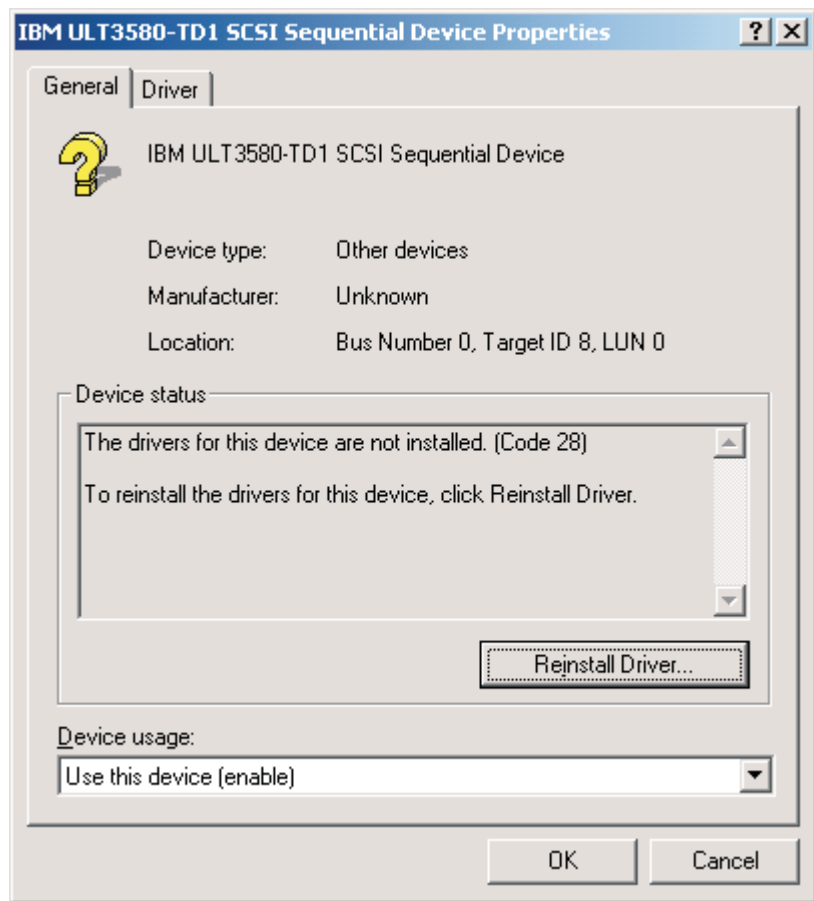

Figure 28. Device Driver Properties with Reinstall Driver ... Selected
10. A window opens. Click the **Reinstall Driver ...** See Figure 28 on page 212. If there is no **Reinstall Driver ...** button on your screen, click on the **Driver** tab and then click **Update Driver**.